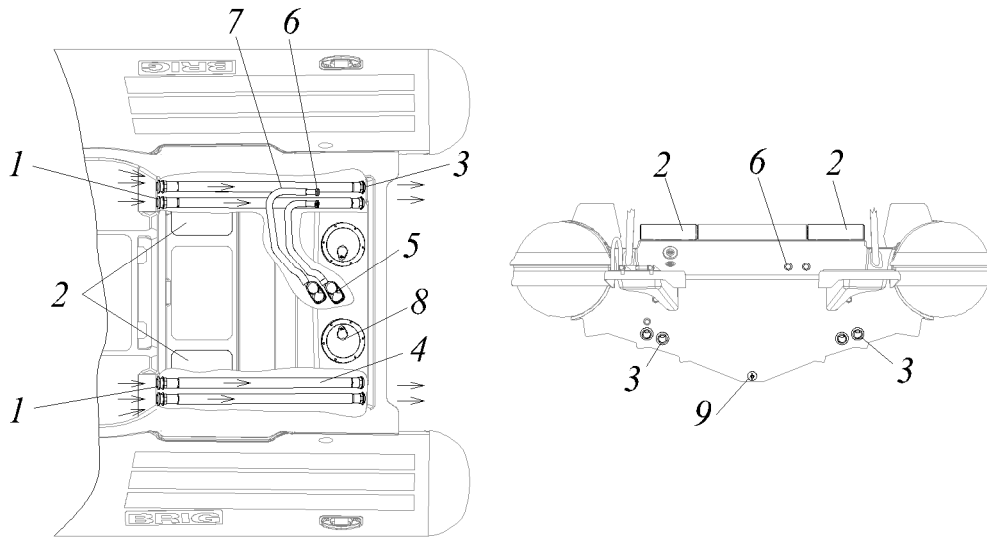

Fig.9
You can see the main components of the drain system in Fig.9
*DRAIN PLUG (9) (Fig.9) MUST BE TIGHTLY CLOSED WHEN BOAT ON WATER.*